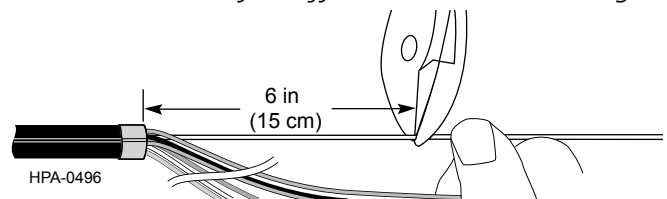

Figure 9
Step 2: Use side cutters to cut the dielectric central member to a length of 6 in (15 cm) (Figure 9).